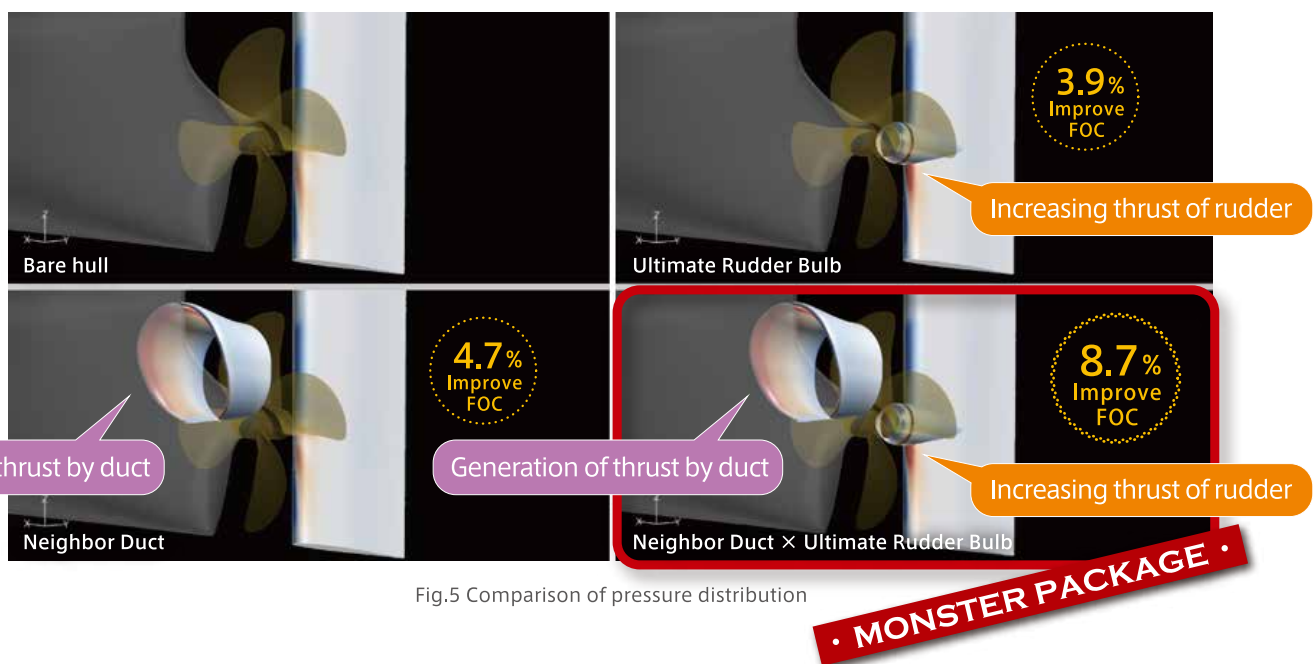

Fig.5 Comparison of pressure distribution
The pressure distribution behind two different propeller caps is shown above. Blue indicates negative pressure areas, while positive pressure areas are colored in yellow & red. For the regular propeller cap, pressure distribution shows a lot of blue, while the pressure distribution with the ECO-Cap shows mostly yellow & red (Figure 5/6).
- For the controllable pitch type, we use a liquid crystal touch panel for the remote control device, which helps to efficiently manage large amounts of information. The operator can assess the whole thruster system condition from the console in the bridge, contributing to safe navigation. (Fig. 5)